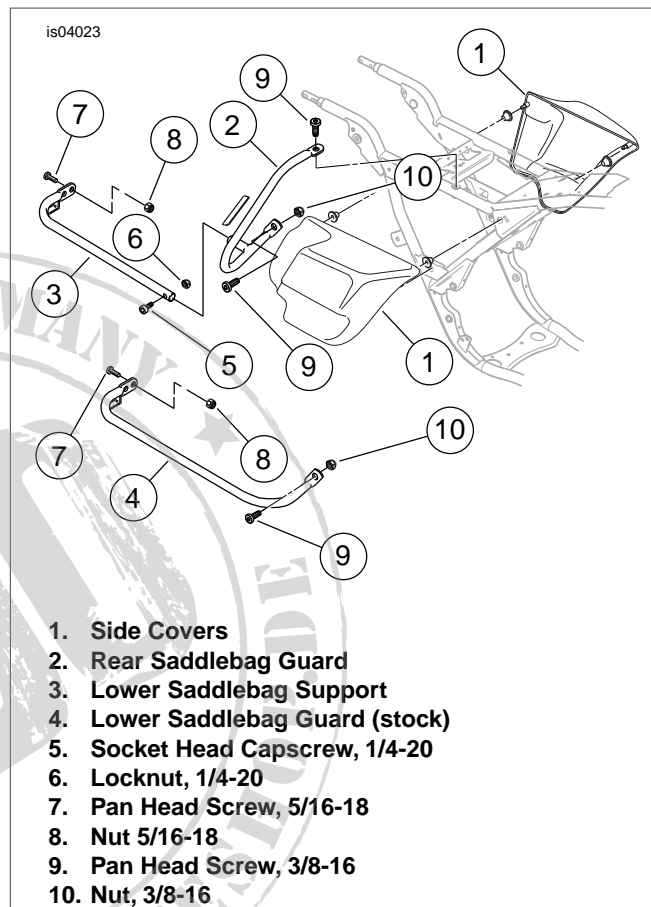

Figure 1. Saddlebag Support Removal
3. See Figure 1. Gently pull one side cover (1) from the frame downtubes (no tools are required).
5. Remove and save the two 5/16-18 x 1 inch long pan head screws (7) and nuts (8) that hold the lower saddlebag guard to the rear fender support bracket. Using a T-40 TORX® drive head, remove and save the 3/8-16 screw (9) and 3/8-16 locknut (10) fastening the front flange to the vertical frame tube. Remove and save the rubber mount (not shown) from the lower saddlebag guard. Remove and discard the lower saddlebag guard (4).
7. See Figure 1. Obtain either the left or right lower saddlebag support. Reassemble, but do not tighten the two 5/16-18 x 1 inch long pan head screws (7) and nuts (8) that hold the lower saddlebag support to the rear fender support bracket. Slide in the rubber mount and align the holes over the muffler. Secure the support to the muffler using the two 5/16-18 x 1/2 inch long hex head capscrews and washers removed in Step 5 and loosely tighten.